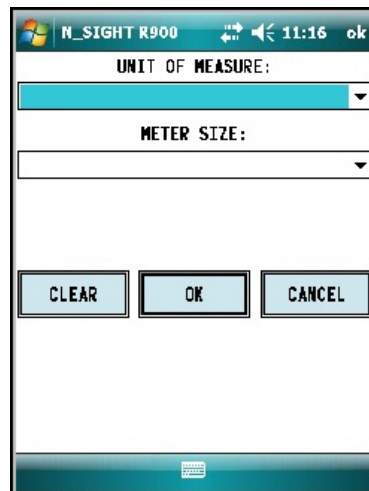

Figure 22 – Meter Size Selection
- After the data logging process is completed, choose the meter size. See Figure 22 on page 23.